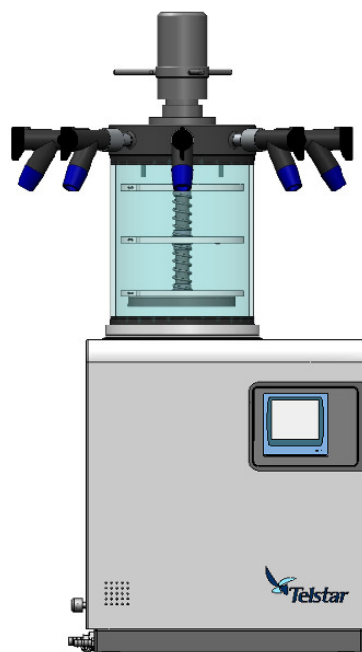

Fig. 6
- **Outside the condenser:** This is recommended when the quantity of product allows you to load the three plates. It is advisable to freeze the product inside the condenser, because the heated plates will be cold and heating rates from negative temperatures may be reached. Once the product is frozen, remove the plates of the condenser and place them in the chamber (see Fig. 6). Also it is possible to load a product that has been frozen in other equipment. The equipment allows you to program recipes (see chapter 10) to run a complete cycle without making any manual actions once the product is frozen and the chamber has been placed.